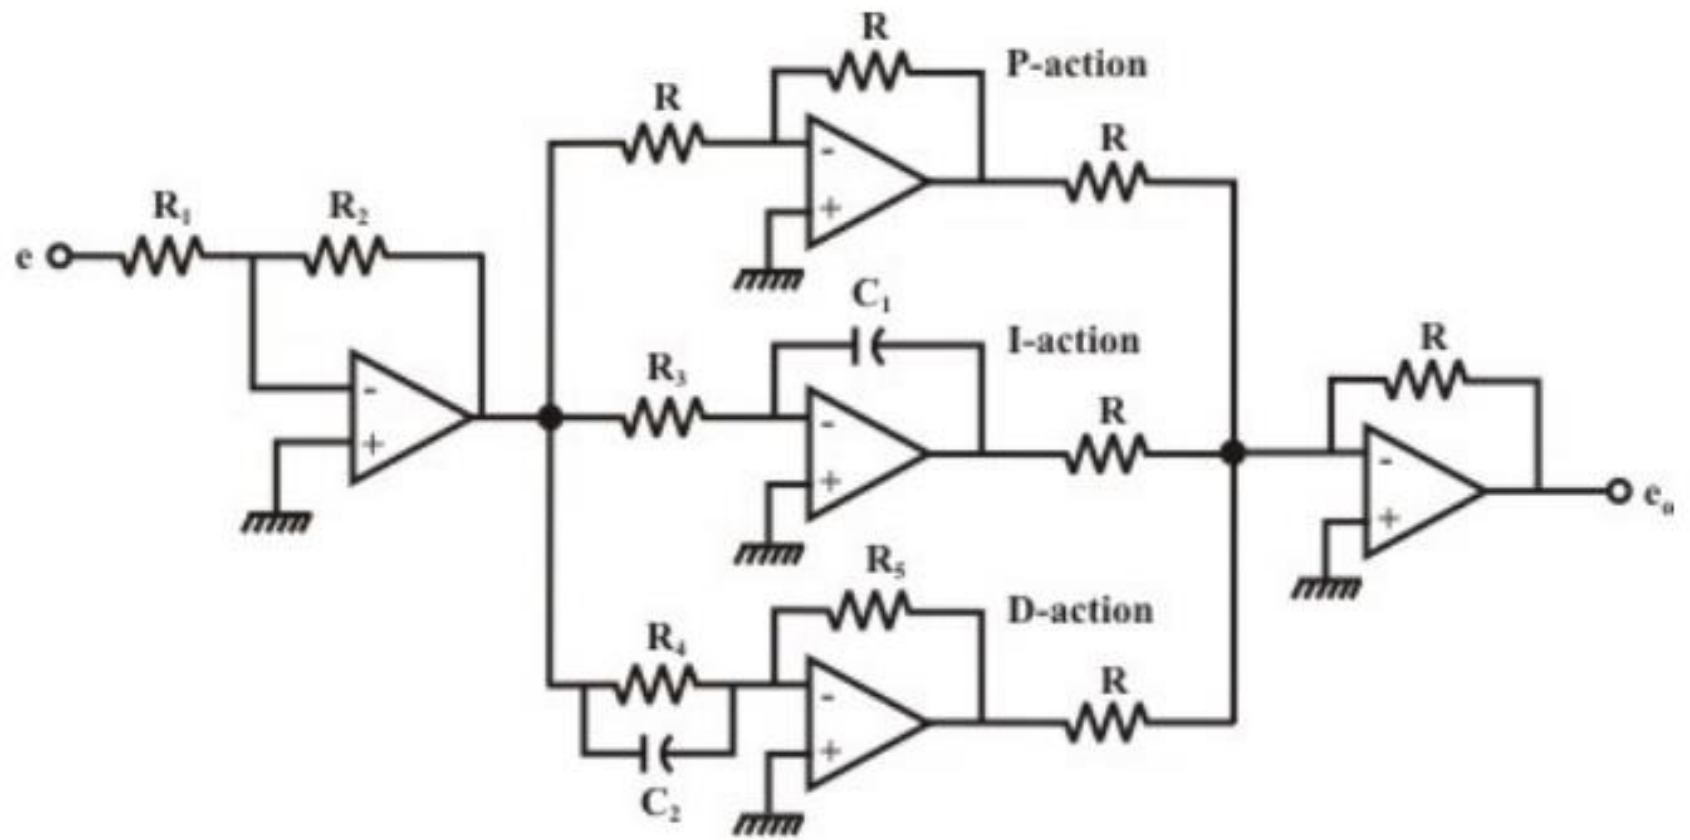

Fig. 5 Electronic PID controller
- ❑ Electronic PID controllers can be obtained using operational amplifiers and passive components like resistors and capacitors. A typical scheme is shown in Fig. 5. With little calculations, it can be shown that the circuit is capable of delivering the PID actions as: